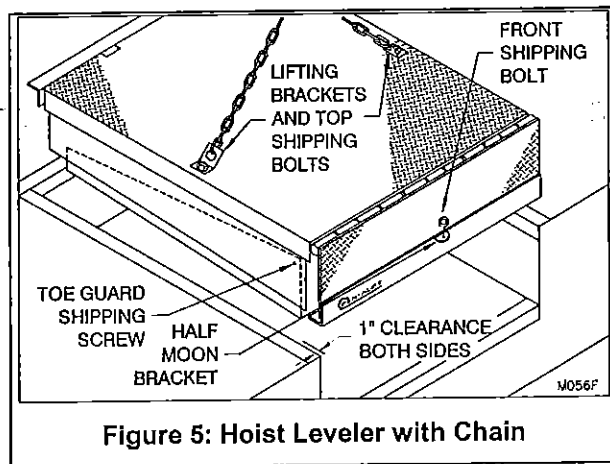

Figure 5: Hoist Leveler with Chain
1. Hoist leveler into pit with chain using only the lifting brackets provided on the leveler as points of attachment (See Figure 5, page 5) and position the leveler into the pit opening.
3. Remove top and front shipping bolts and lifting brackets. Finally, bend down the half moon bracket. (See Figure 5, page 5)
6. Support the lower half of the toe guard and remove the self tapping screw which holds it in the shipping position. Carefully lower the toe guard and avoid pinch points. (See Figure 5, page 5)
2. Hoist the leveler into the pit with chain using only the lifting brackets provided on the leveler as points of attachment (See Figure 5, page 5) while feeding the hydraulic hose through the 3"
Remove top and front shipping bolts. (Items 1 and 2 on Figure 5, page 5)